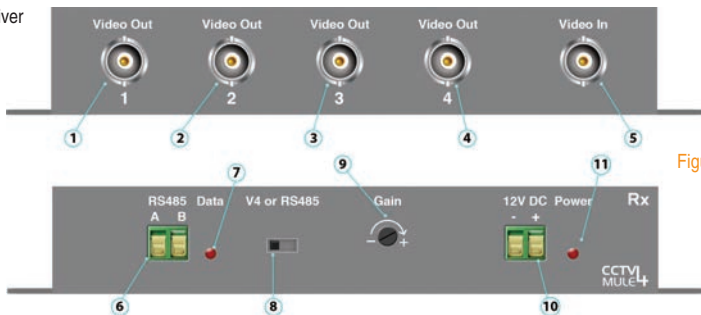

Figure 2
1. The RG59 co-ax cable from the transmitter connects to the 'Video In' port (figure 2, 5) of the Mule receiver.
2. Connect your video cables from the 'Video Out' ports marked 1 to 4 (figure 2, 1-4) to your 4 video in inputs on the back of your DVR.
4. If you find the video quality is low when coming out of the receiver, you can use the 'Gain' control knob (figure 2, 9) to fine adjust the video image. This is especially useful when transmitting over distance.
1. Connect the RG59 co-ax cable into the 'Video In' port (figure 2, 5).
2. Connect the 3 video cables from your DVR to the 'Video Out' marked 1 to 3 of the RX unit (figure 2, 1-3). *Note you should have no cables connected to the video port 4 on either the TX or RX.*
5. The 'Data' LED will only light up when a keyboard/PTZ are in operation (figure 2, 7).
1. Connect the RG59 co-ax cable from the transmitter to the 'Video In' port (figure 2, 5) of the receiver.
2. Connect the 3 video cables from your DVR to the 'Video Out' marked 1 to 3 of the RX unit (figure 2, 1-3).
3. Connect a video input signal like a camera into 'Video Out' port 4 (figure 2, 4).